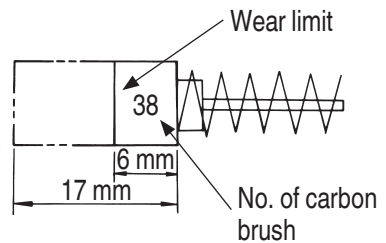

Fig. 14
3. Inspecting the carbon brushes (Fig. 14)